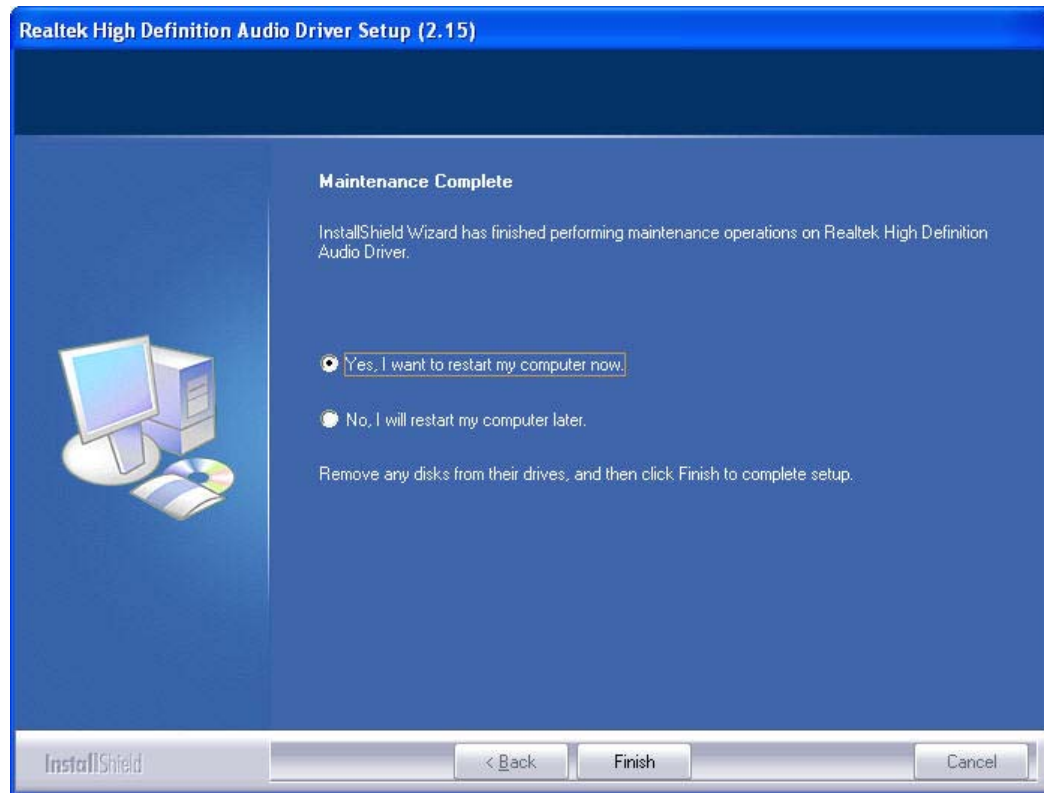

Figure 7-22: HD Audio Driver Installation Complete
Step 7: After the driver installation process is complete, a confirmation screen shown in **Figure 7-22** appears.
Step 8: The confirmation screen shown in **Figure 7-22** allows you to restart the computer immediately after the installation is complete or to restart the computer later. For the settings to take effect the computer must be restarted. Once you have decided when to restart the computer, click the **“FINISH”** button.